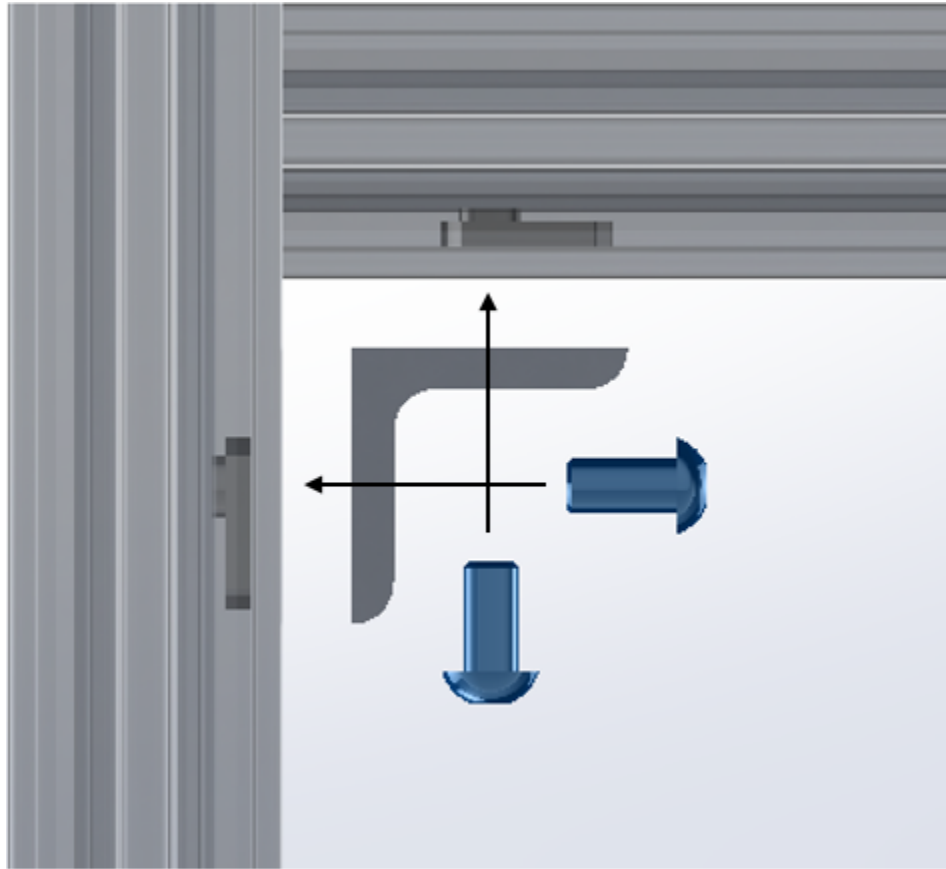

Figure 4. Exploded view of 90° Elbow connection
3. Now, place a 90° Elbow at each tube connection (4 total, see Figure 4) and line up the slider nuts so the holes match with the holes of the elbows. Place 2 Button Head Socket Cap Screws in each elbow and use the Measuring tool to align the hanging tube to the center of the horizontal piece. This centerline dimension uses side 1 of the measuring tool (Figure 4).